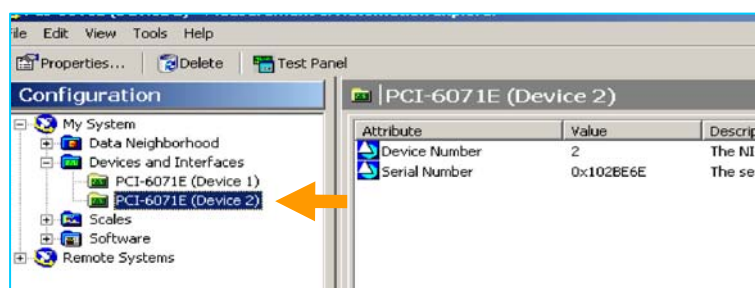

Figure. 1-1
3. Run the “Measurement and Automation” shortcut on the desktop. Open “Devices and Interfaces” and check if the two installed devices are present as Figure.1-1.